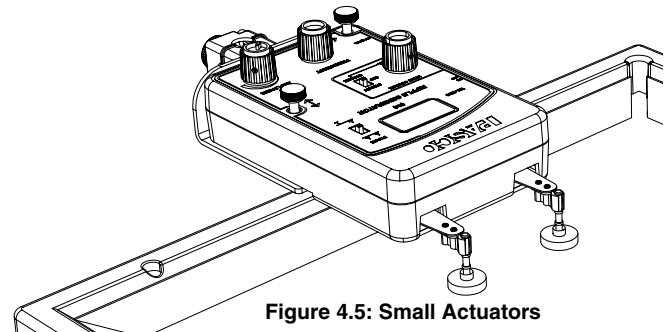

Figure 4.5: Small Actuators
**Actuators** Raise the ripple generator and remove the plane wave dipper. Attach a dipper adapter to each of the two small actuators, and put the dipper adapters into the clips on the ripple arms (see Figure 4.5). Adjust the ripple generator so that the two small actuators barely touch the surface of the water. Repeat the procedure as for the two point sources. Adjust the amplitude as needed to make a clear pattern.